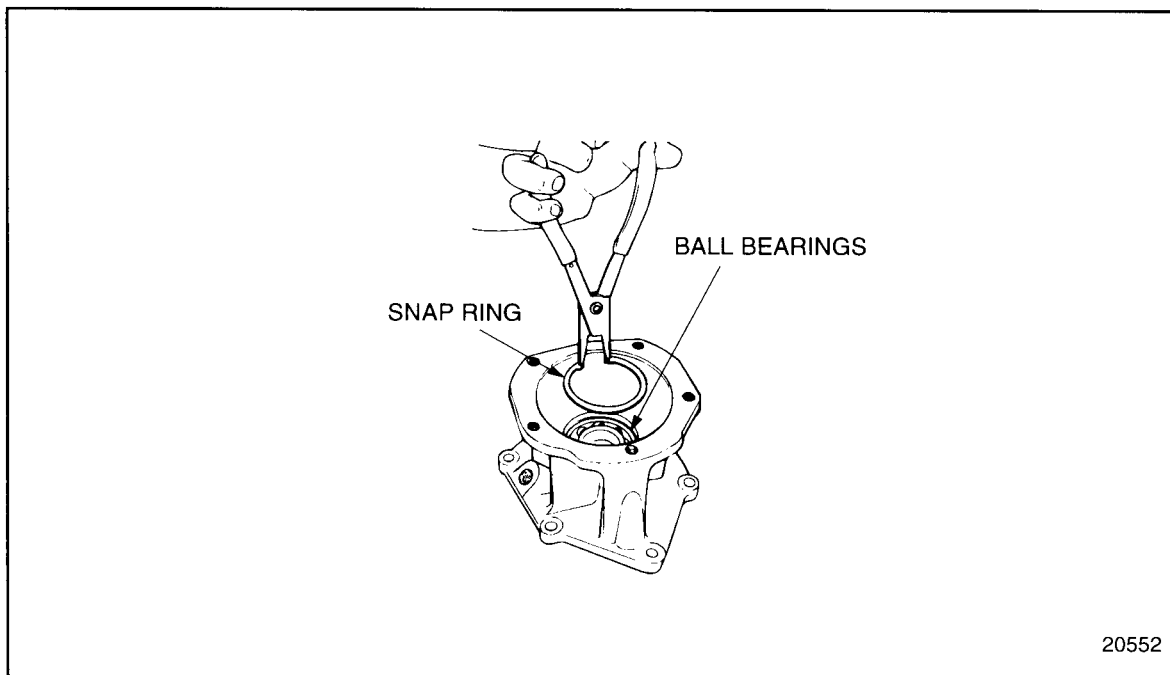

Figure 10-15 **Roller Bearing Snap Ring Removal**
11. Remove the large snap ring retaining the ball bearing in the air compressor drive hub housing using snap ring pliers. See Figure 10-15.